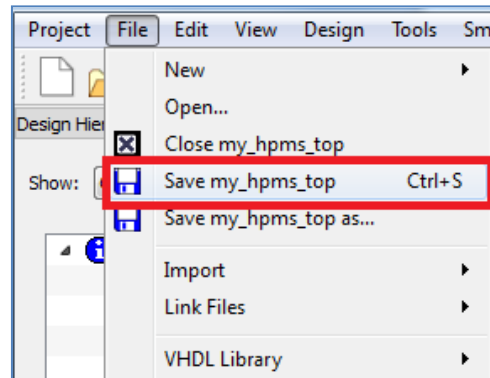

Figure 12 Saving my_hpms_top SmartDesign Block
17. Click **File > Save my_hpms_top** to save my_hpms_top smartdesign block, as shown in Figure 12.